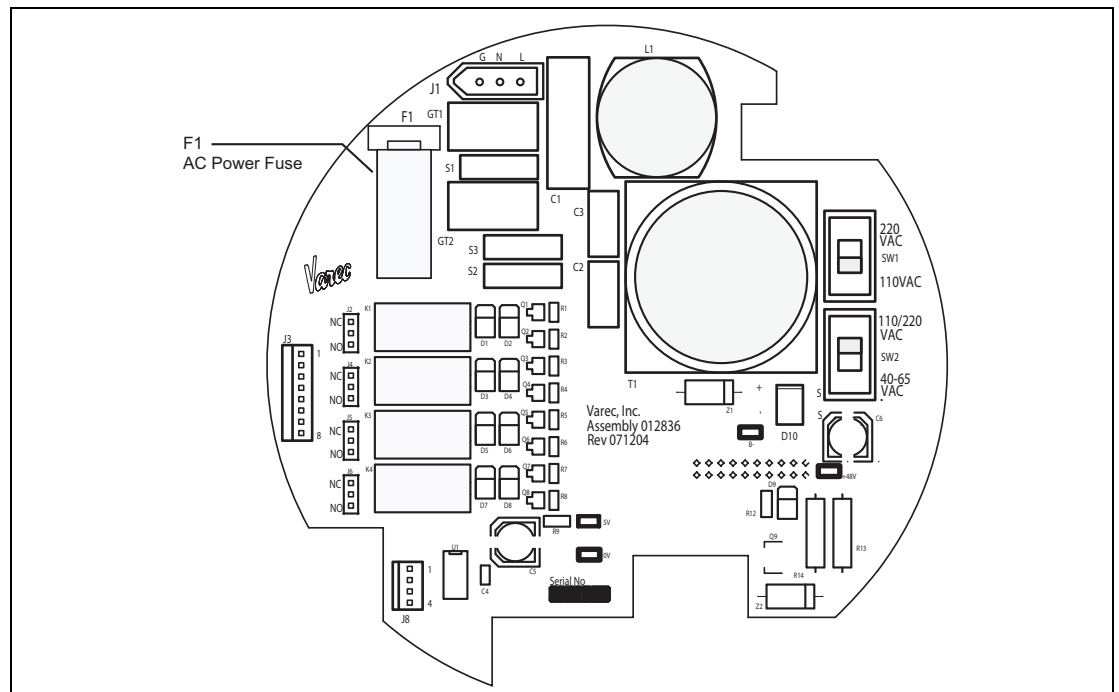

Figure 9-9: AC Power Supply Circuit Board, Top View
2. Connect a laptop computer running ViewRTU software to the RS-232 connector (J13) on the communications circuit board. Figure 9-9 shows the connector.